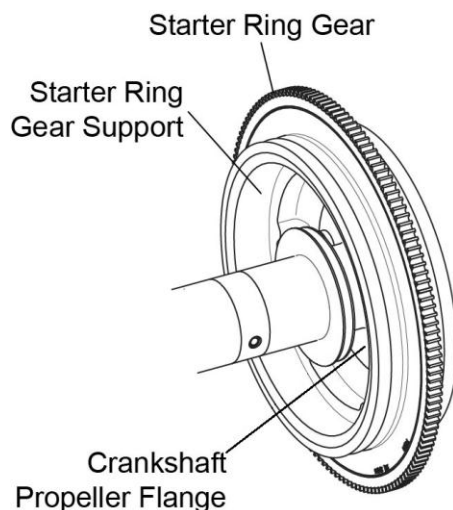

Figure 8
- (2) Remove the alternator belts from the starter ring gear support (Figure 8).
- (3) Remove the starter ring gear support from the crankshaft propeller flange.